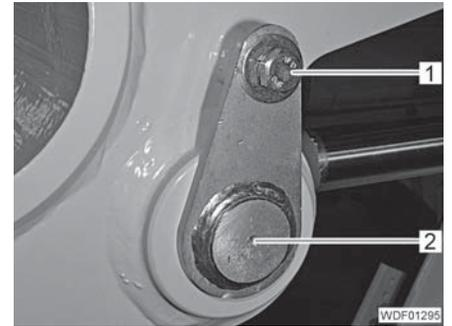

Fig. 311 Attachment of the lifting cylinder at the rod end
- Unscrew 1 screw (Fig. 311,1) in each case.
- Drive out 1 pin (Fig. 311,2) in each case.
- Drive in 1 pin (Fig. 311,2) in each case.
- In each case, screw in and tighten 1 screw (Fig. 311,1) with washer.